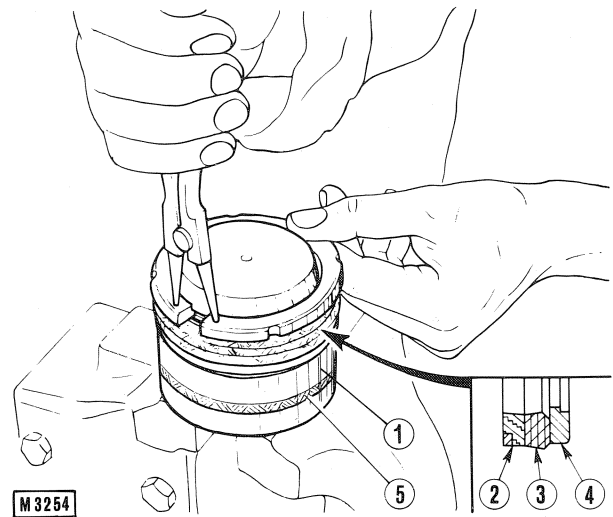

Fig. 7 - Installation (removal) of hydraulic adjuster piston (1) seal.
- Locate and arrange piston (1) seal components shown in Fig. 7.